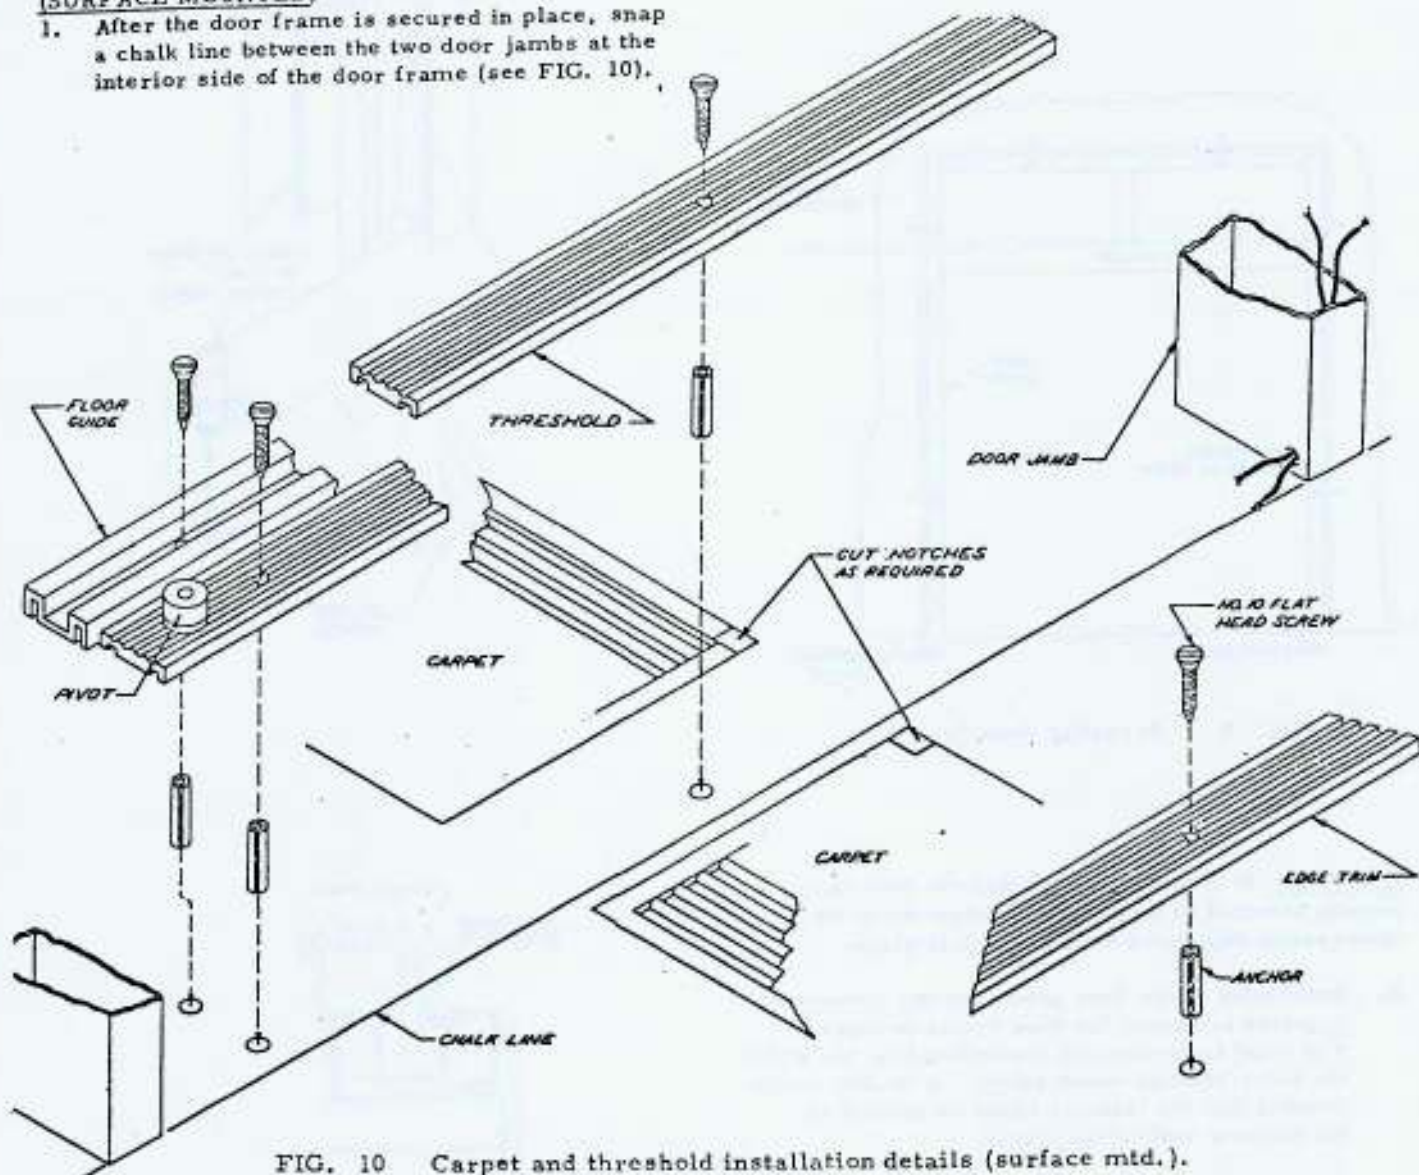

FIG. 10 Carpet and threshold installation details (surface mtd.).
1. After the door frame is secured in place, snap a chalk line between the two door jambs at the interior side of the door frame (see FIG. 10).
6. Notch two corners of the carpets to fit around the thresholds, as required, (see FIG. 10). Move the carpets up against the sidelite thresholds. Install the center threshold with its edges inserted in the grooves in the carpet (see FIG. 10, Detail A). Secure the threshold with No. 10 sheet metal screws.
10. It may be necessary to notch two corners of the carpet to fit around the corners of the thresholds and floor guides, depending upon the type of threshold installation (refer to FIG. 10). The beveled edges of the carpet that are against the threshold must fit snugly with the grooves in the threshold.